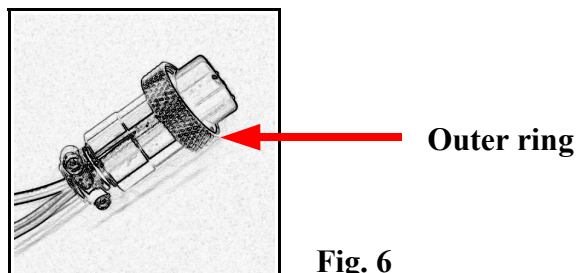

Fig. 6
- (e) Secure the remote connector plug to the terminal socket by locking connector ring(Fig 6).